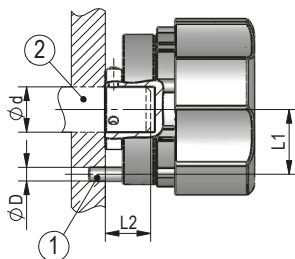
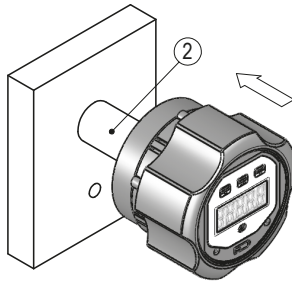
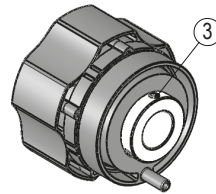

Fig. 1: Mounting dimensions
Fig. 2: Mounting
Fig. 3: Fastening torque for headless pin
- Ensure a low shaft and angle offset between shaft and accommodation bore by applying appropriate manufacturing methods (see Fig. 1 + Tab. 1).
#### Preparing mounting (Fig. 1, Fig. 2, Fig. 3):
#### Mounting (Fig. 1, Fig. 2, Fig. 3):